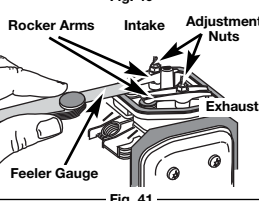

Fig. 41
- The piston is at the top of its travel while looking in the spark plug hole (Fig. 41).
The recommended clearance for both intake and exhaust is .003 – .006 in. (.076 – 0.152 mm). Use a standard automotive .005 in. (0.127 mm) feeler gauge. The feeler gauge should slide between the rocker arm and valve stem with a slight amount of resistance, without binding. See Figures 41 and 42.